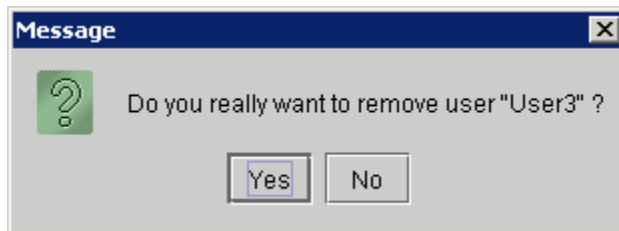

Figure 7 : Message for removing a user
- ◆ Click on button **Remove**, the following window is displayed (Figure 7):